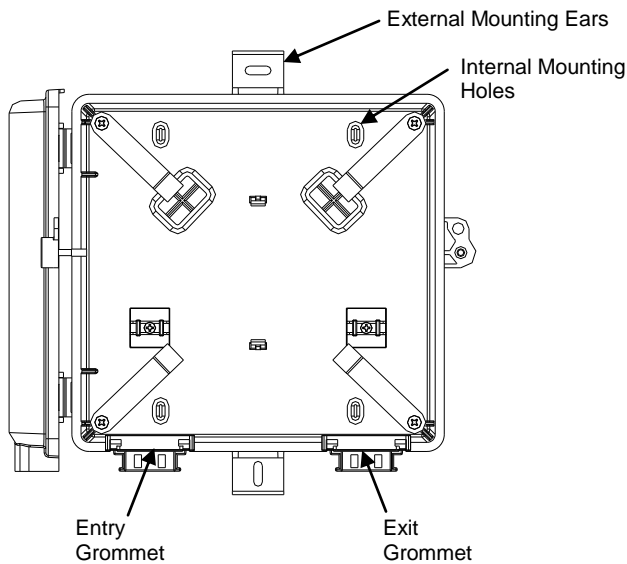

Figure 2
4. The internal mounting holes are covered with a thin film of plastic, which are easily punched out, to maintain the environmental integrity of the enclosure (See Figure 2).
5. In addition to the internal mounting holes mentioned in step 4, there are external mounting ears which are provided for exterior mounting. Mount as previously stated using the appropriate mounting hardware and methods (See Figure 2).